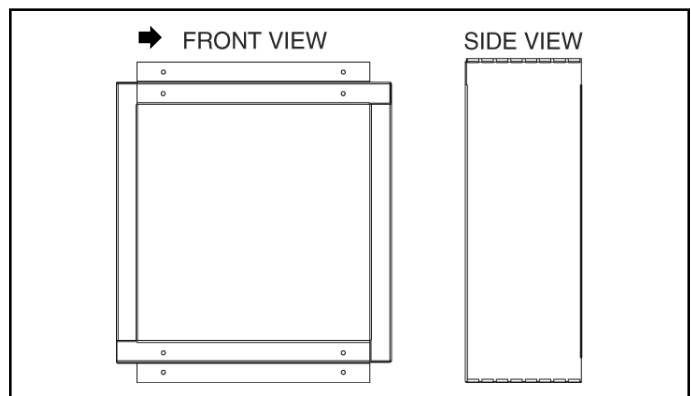
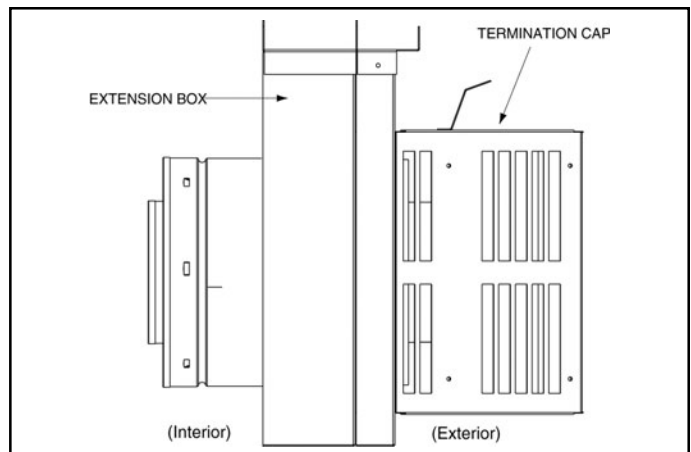

Figure 2 - BEK Extension Box - Assembled
Figure 3 - BEK Extension Box - Installed
3. Place the assembled box (Figure 2) over the framed opening in the wall so that the rectangular cutouts in the box flanges are facing away from the house. See Figure 3.